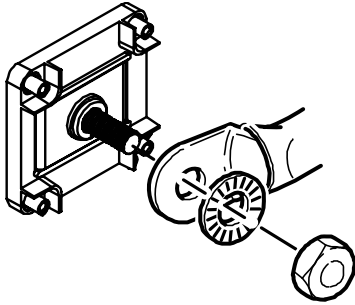

Figure 3 DC Cable Connections
Use only appropriately sized copper cable. Loose connections or improper connections will overheat. Make sure the bolts supplied by Xantrex on the inverter/charger are tightened to a torque of 10–11 ft-lbs (13.6–14.9 Nm). Torque all other connections to the manufacturer's specifications. Make sure the DC cable, washers, and bolt are assembled in the order shown in Figure 3.
4. Connect one connector on the POSITIVE (+) cable to the POSITIVE DC terminal on the inverter/charger, as shown in Figure 3. The connector goes on first, then the flat washer (steel), lock washer (steel), and nut 5/16” (steel).
6. Connect one connector on the NEGATIVE (–) cable to the NEGATIVE (–) DC terminal on the inverter/charger, as shown in Figure 3. The connector goes on first, then the flat washer (steel), and nut 5/16” (steel).